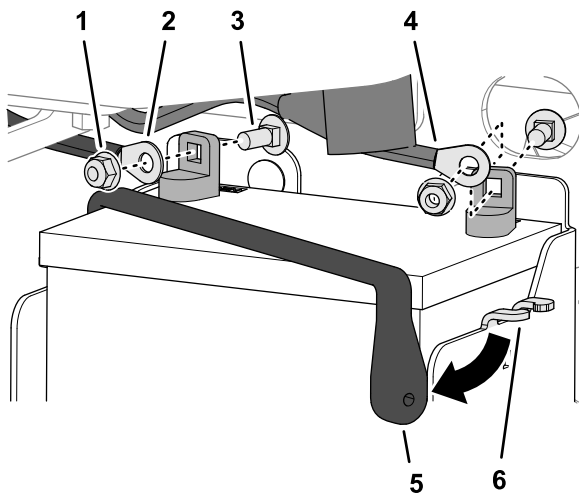

Figure 83
2. Remove the flange locknut and carriage bolt that secure the negative battery cable to the battery, and remove the cable from the battery (Figure 83).
- Slip back the insulator cover of the positive battery cable (Figure 83).
- Remove the flange locknut and carriage bolt that secure the positive battery cable to the battery, and remove the cable from the battery (Figure 83).
- Remove the battery strap from the flange of the battery box (Figure 83).
- Secure the battery to the battery box with the battery strap (Figure 83).
- Assemble the positive battery cable to the positive terminal of the battery with the carriage bolt and flange locknut (Figure 83).
- Assemble the negative battery cable to the positive terminal of the battery with the carriage bolt and flange locknut (Figure 83).